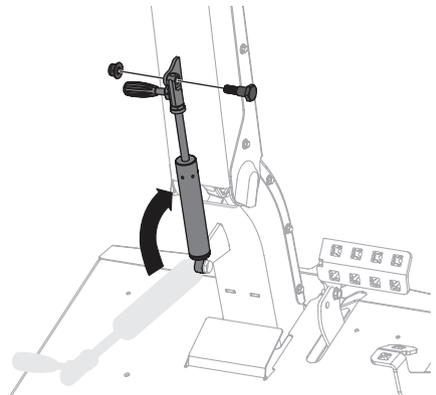

Figure 13
4. While holding steering wheel column in a raised position, use other hand to raise tilt locking cylinder, aligning holes in top of cylinder with holes in cylinder mounting plates on the underside of the steering wheel column (Figure 13).
- Working from right to left, install shoulder screw through holes aligned in Step 4 and secure with hex flange lock nut. Torque the shoulder screw to 120-144 in.-lbs (14-16 N-m) (Figure 13 on page 10).